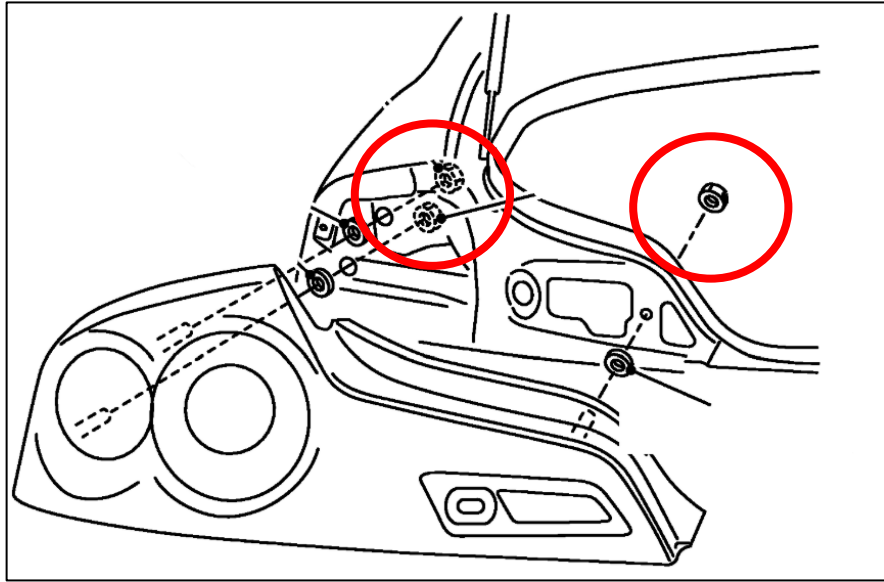

Figure 7
19. Remove the (3) three nuts inside of the trunk that secure each taillight to the vehicle. *Figure 7.*